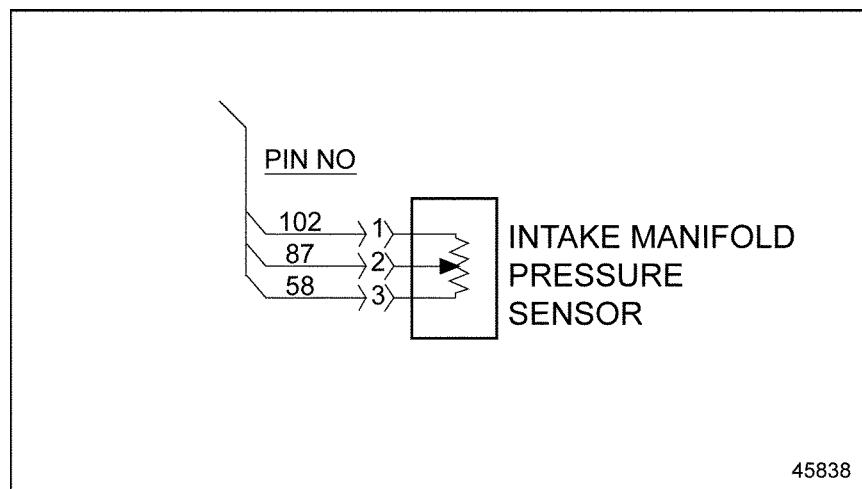

Figure 111-1 Intake Manifold Pressure Sensor
3. Measure the resistance between pin 2 and 3 of the IMP Sensor connector. See Figure 111-1.